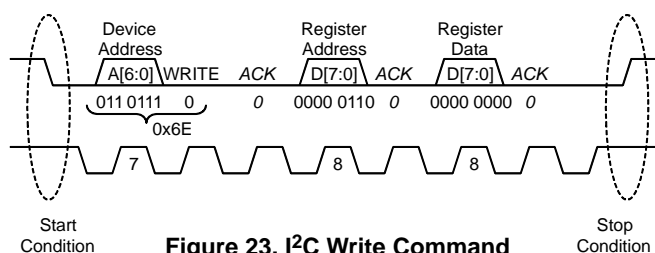

Figure 23. I²C Write Command
Figure 23 shows an I²C write operation. Write transactions begin with the master sending an I²C start sequence followed by the seven bit slave address (NOA3315W = 0x37) and the write(0) command bit. The NOA3315W will acknowledge this byte transfer with an appropriate ACK. Next the master will send the 8 bit register address to be written to. Again the NOA3315W will acknowledge reception with an ACK. Finally, the master will begin sending 8 bit data segment(s) to be written to the